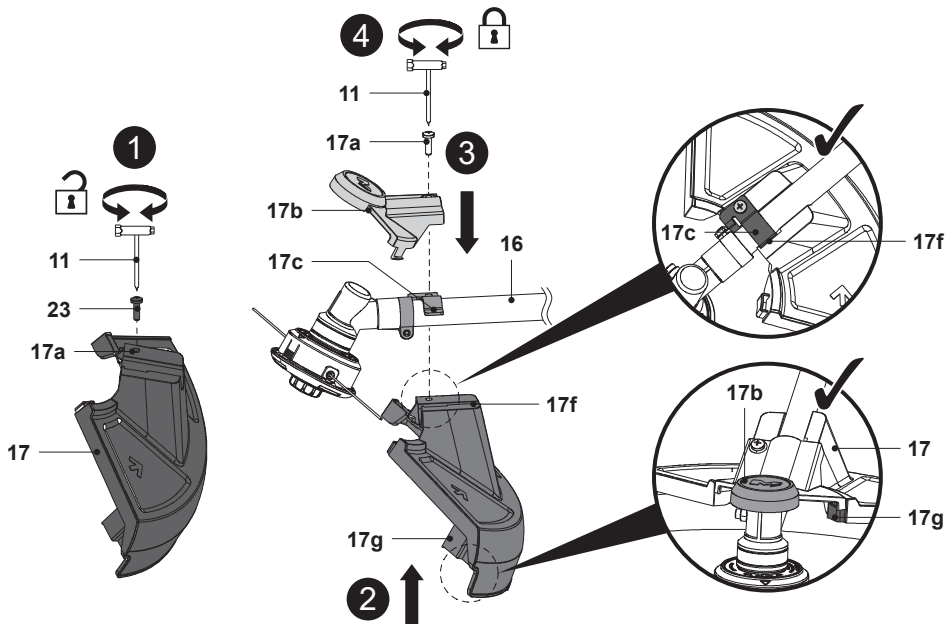

Fig. 3
1. Remove the bolt (17a) from the guard (17) by using the supplied multi tool (11) and keep it handy (Fig. 3, step 1).
2. Align the guard (17) with the guard support (17c) on the lower pole (16) and keep it in place (Fig. 3, step 2).
3. Align the guard cover (17b) with the guard support (17c) on the lower pole (16). Ensure that the sheet metal of the guard support (17c) is fully inserted the slot (17f). Ensure the clip of the guard cover (17b) is pressed through the buckle (17g) of the guard (17) with an audible click sound (Fig. 3, step 3).
4. Make sure that the screw holes on guard (17), guard support (17c) and guard cover (17b) are well aligned.
5. Secure the connections with the bolt (17a) clockwise by using the supplied multi tool (11) (Fig. 3, step 4).